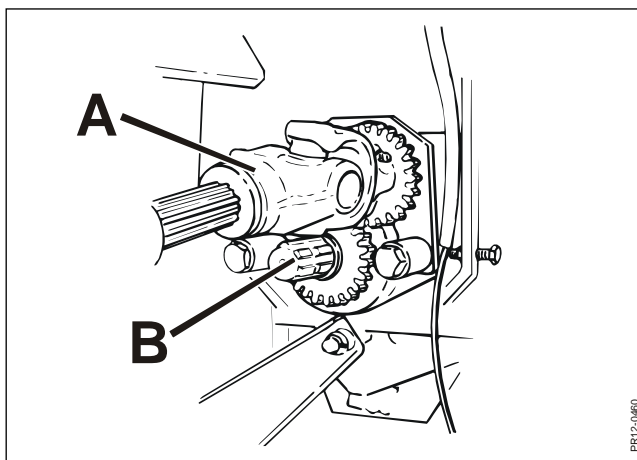

Fig. 6-7
- Fig. 6-7** 2) Move the PTO shaft **A** for the rotor to the alternative pin in **pos. 1**, where the gear wheels are not in mesh. Thereby the rotor is not driven.
- Fig. 6-7** 4) After reversing disconnect the power take-off again, and when the rotor has come to a complete stop, move the PTO shaft **A** for the rotor back to the pin **B** for driving the rotor.